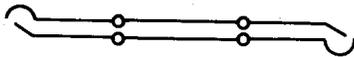

Fig. 11—356A Plug
2.05 356A: The 356A plug (Fig. 11) consists of a P2AY cord equipped with two 352A plugs and replaces the 135 plug.